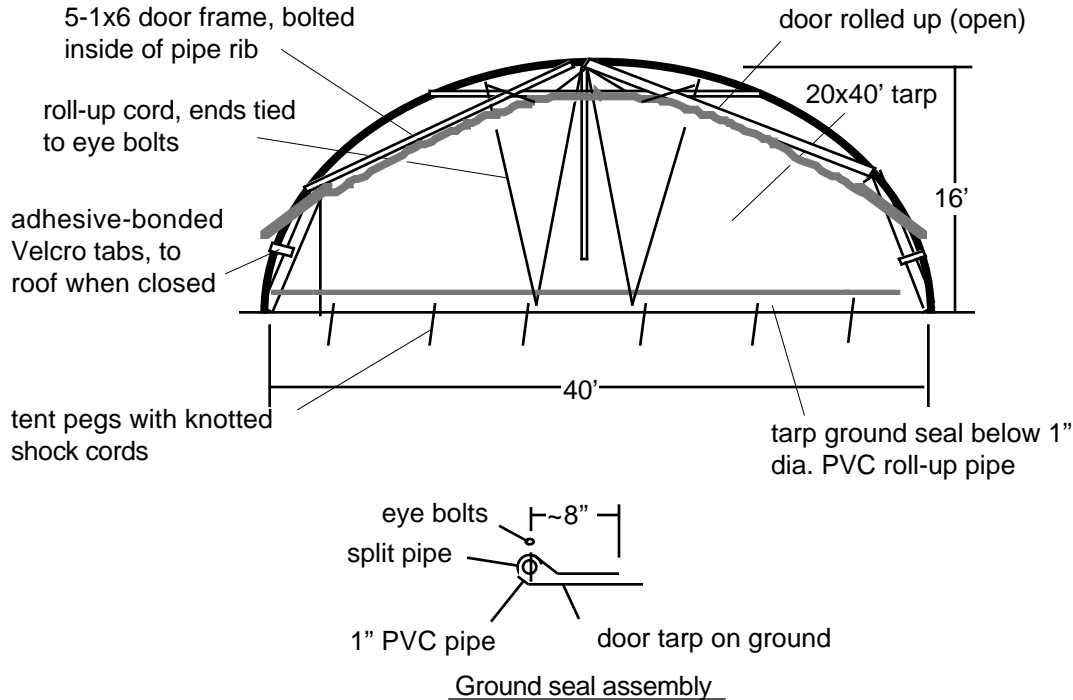

Fig. 10. Roll-up aircraft door
Aircraft doors require trade-offs in weight, cost, operating convenience, maintenance, etc. A roll-up film door (Fig. 10) is light enough to be raised by awning cords and its flexible bottom pipe roller allows tail and wing clearances with minimal door-opened area in a quonset-shaped hangar. It is a lower thermal protection, lower cost alternative to bifold or horizontal track doors. Film doors flap in winds, but are inexpensive to replace.
Film Use the same film as for the roof, or a translucent woven film for day-lighting, or thermal blanket material for better insulation. A 20x40' tarp can be used for the plan shown in Fig. 10.
- Lay the 20x40' tarp on the ground in front of the hangar and clamp it onto a 1"-40' PVC pipe about 8" from one edge with split 1" PVC pipes held with screws (Fig. 10). Add a small eye bolt every 7' to 8'. The pipe is a flexible bottom roller to anchor the door closed or to roll it open like an awning.
- Tie the awning cord ends to eye screws at the outside of the two sloping 1x6-16's. Pass the center loop under the roller and inside over the top purlin, for rolling the door open (Fig. 10). Photos Do to Dq show a similar door opened and closed and a rear view of Hangar #1 (40' span by 28' aircraft hangar).